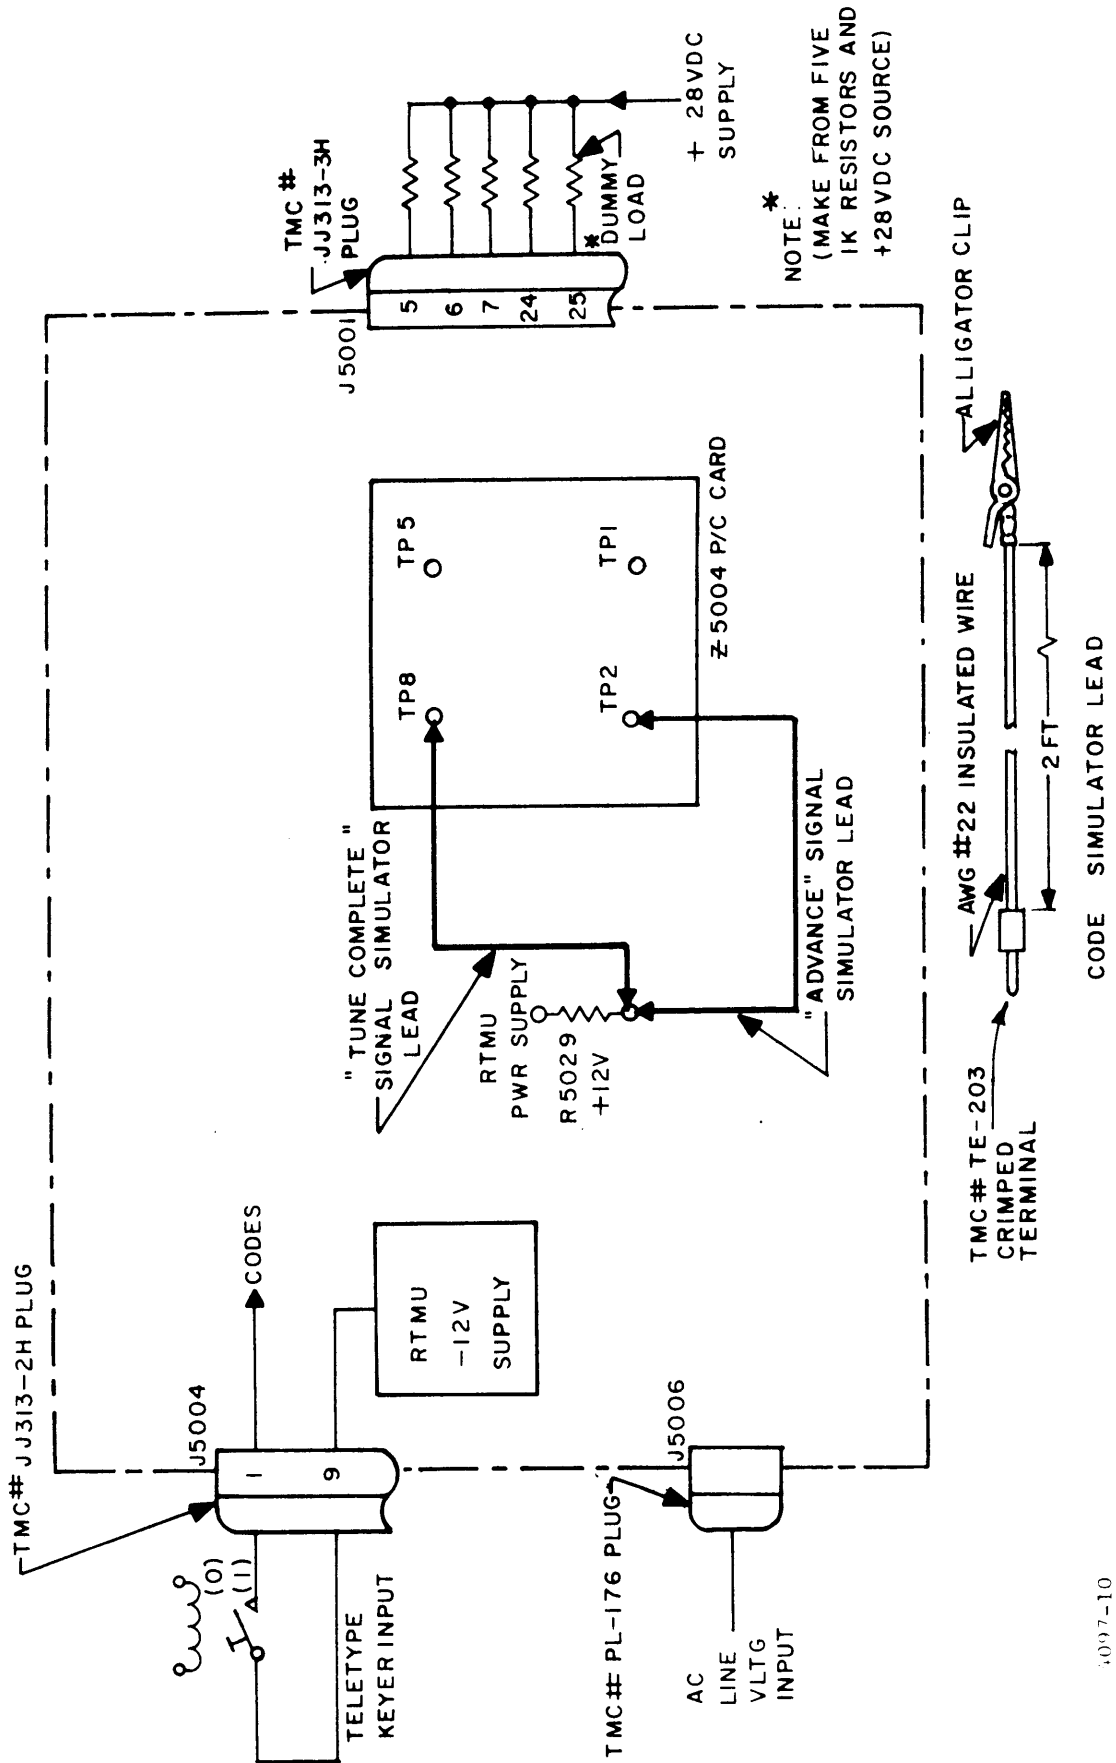

Figure 5-5. Test Setup, RTMU
(1) Test Set-up.- Connect the RTMU to the line voltage source, teletypewriter\* equipment and dummy load as shown in figure 5-5. Have the VTVM and oscilloscope available for measurements. Set RTMU POWER switch to OFF.
To check the readback section, connect the readback keying output to the teletypewriter tape puncher input as shown in figure 5-5. Setting the RTMU POWER switch to ON will start the readback scanning action and the RTMU will transmit the "E" code (10000) to the puncher on each scan cycle. If this code appears punched on the tape every 2 seconds, for a 60 WPM Z5015 card (or 1-3/8 seconds for a 100 WPM card), the basic readback action is functioning correctly. To check individual readback circuitry (diode matrix wiring), simulate codes by shorting the common pin with a bit pin for a "1" bit in each code group throughout J5002 and J5003 receptacles (refer to figure 7-2). Check resulting codes on the punched tape.
To check the memory section, set up cards Z5001, Z5004 and Z5014 on A3696 card extenders. Connect the teletypewriter serial pulse output to a polar relay keyer and the keyer to pins 34 of Z5001 and terminal 11 of TB5001 as shown in figure 5-5. Connect RTMU to line voltage at J5006 receptacle. Connect one end of a jumper to R5029 resistor at its +12V output end (end opposite to connection at terminal 1 of TB5001) and keep other end of jumper available for the simulated "advance" pulse. Set RTMU POWER switch first to OFF and then to ON. Send the alpha/numerical recognition code for the RTMU by the teletypewriter keyboard; then send the 5-bit code 11000 ("A" on CCIT
This procedure simulates events in the sequence in which they normally occur in the memory section. Some events are produced by the functioning of associated equipment in the transmitter (or receiver) system. To simulate the signals from the associated equipment, a teletypewriter and jumper leads are used, as shown in figure 5-5.
Connect the RTMU to the teletypewriter as shown in figure 5-5. Connect the "advance", and "tune complete" signal simulator leads as shown in figure 5-5, using alligator clip connections. Connect line voltage and a dummy load to the RTMU as shown in figure 5-5. Have oscilloscope available for pulse measurements (see paragraph 5-4d).